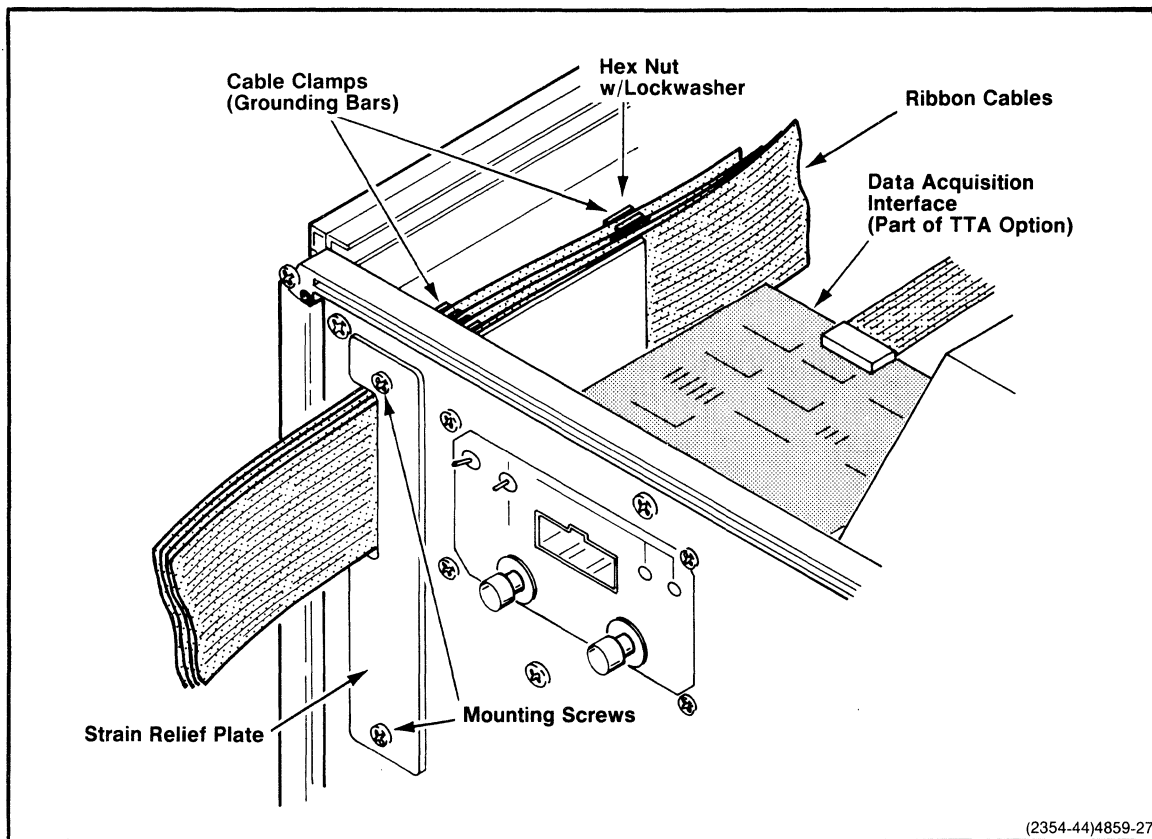

Figure 6-5. Strain relief plate installation/removal.
8. Remove the two mounting screws at the top and bottom of the strain relief plate, as shown in Figure 6-5. Then remove the strain relief/cable clamp assembly from the rear panel.